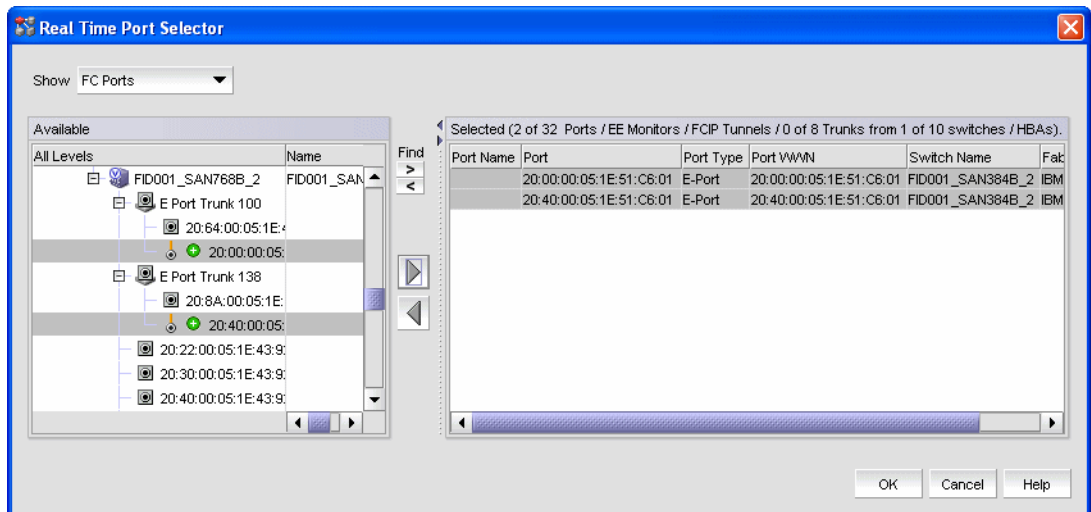

Figure 9-6 Real-Time Port Selector
3. Select one or more ports on the Available table, and click the right arrow in the middle to add the ports on the monitored port table on the right, as shown in Figure 9-6.